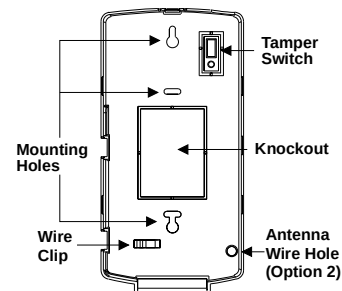

Figure 2. Back Mounting Plate
- When you mark the back mounting plate's two mounting holes, also mark where the antenna hole is (see Figure 2 for antenna wire hole location).